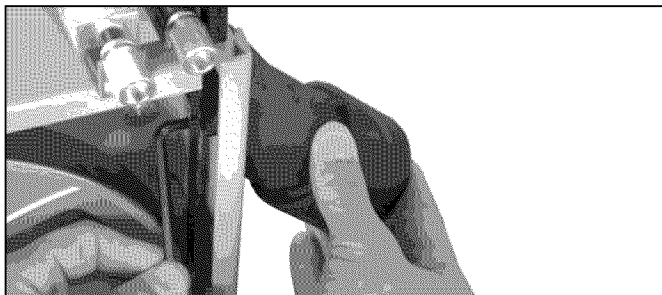

Figure 2 - Attach 2½" Dust Port
Refer to Figure 2.
- Locate two socket head bolts and two washers from the bag of loose parts. Mount the dust port to the band saw frame and install a socket head bolt with washer in each hole, then tighten with M5 hex "L" wrench (see Figure 2).